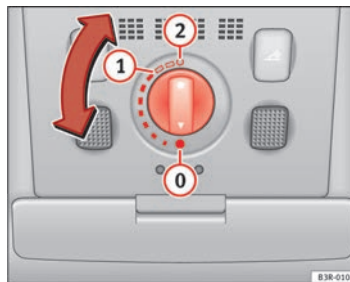

Fig. 81 Detail of headliner: Sliding/tilting sunroof control
The sliding/tilting sunroof is operated using the rotary knob ⇒ Fig. 81. The rotary knob for sliding the roof open can be adjusted to several different settings (with click stops). This knob only works when the ignition is switched on. The rotary knob must be in the 0 position if you want to tilt the roof up at the rear.
- Turn the control until it engages at position ① ⇒ Fig. 81. The sunroof will now only open as far as the convenience position which means there is less wind noise.
- Turn the control to position ① ⇒ Fig. 81 to close the sunroof ⇒ △.
- Turn the control to position ① ⇒ Fig. 81.